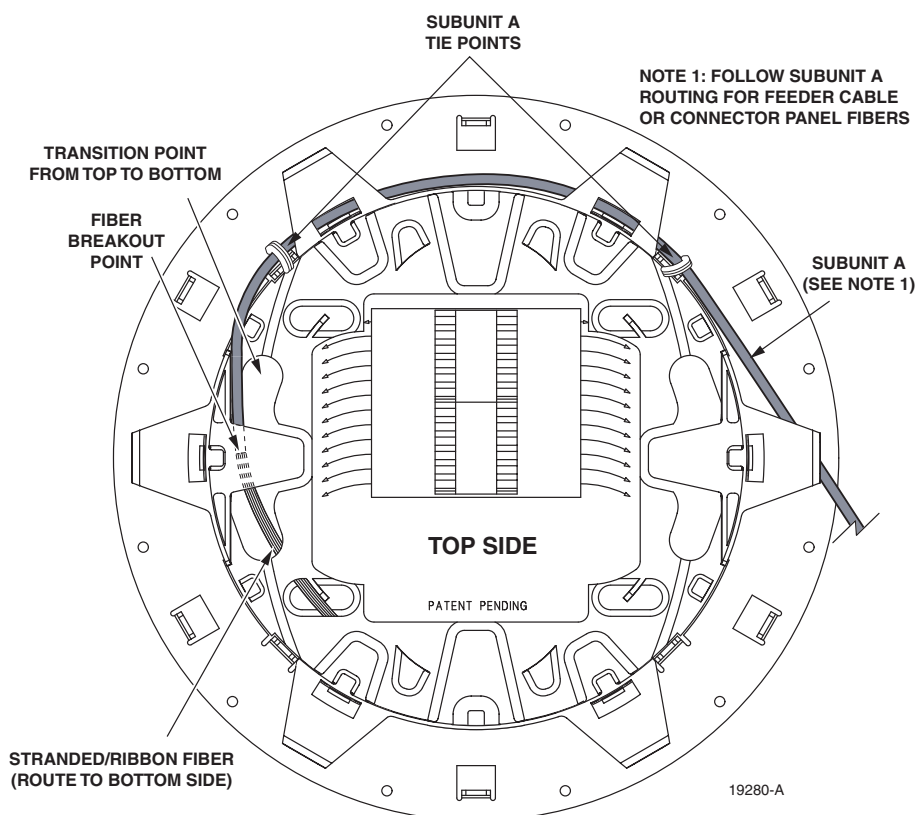

Figure 29. Subunit A Tie Points
2. Secure **subunit A** to the splice tray at the points shown in Figure 29.
3. Insert the breakout fibers through the opening where the fibers transition from the top to the bottom of the splice tray (see Figure 29).